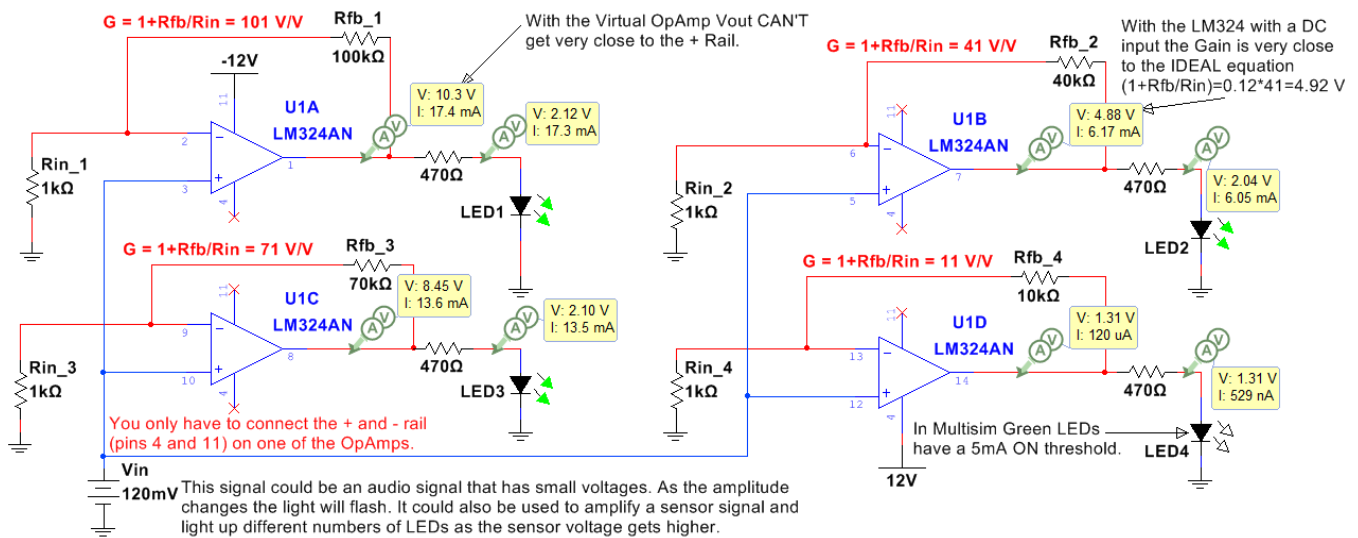
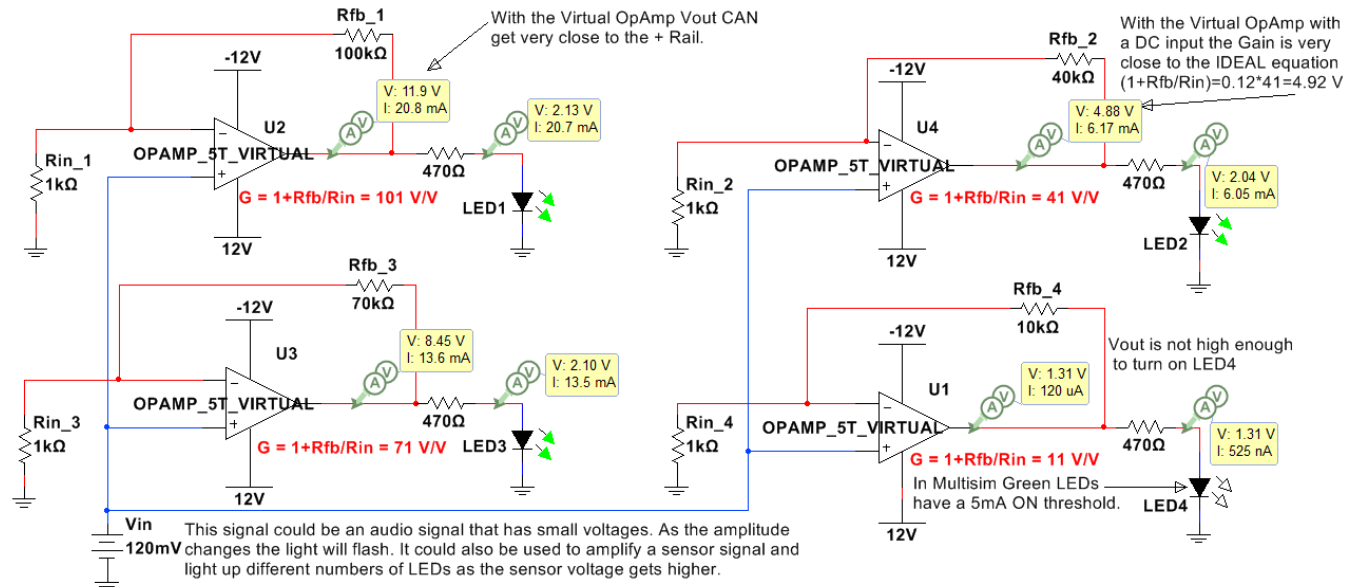
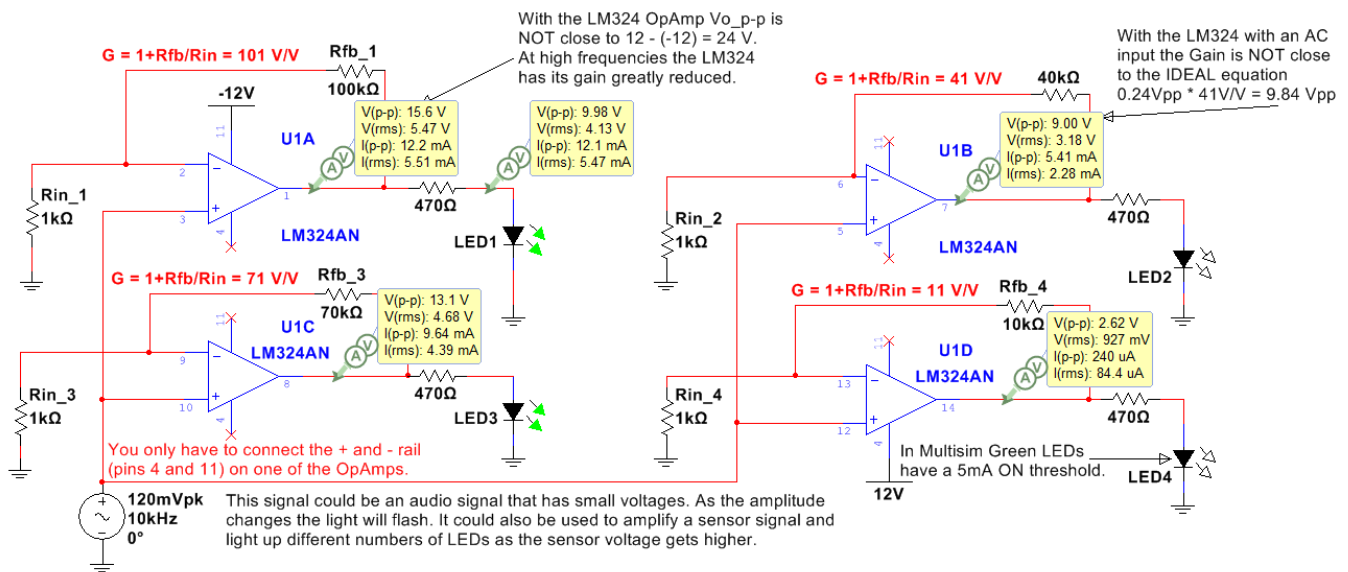
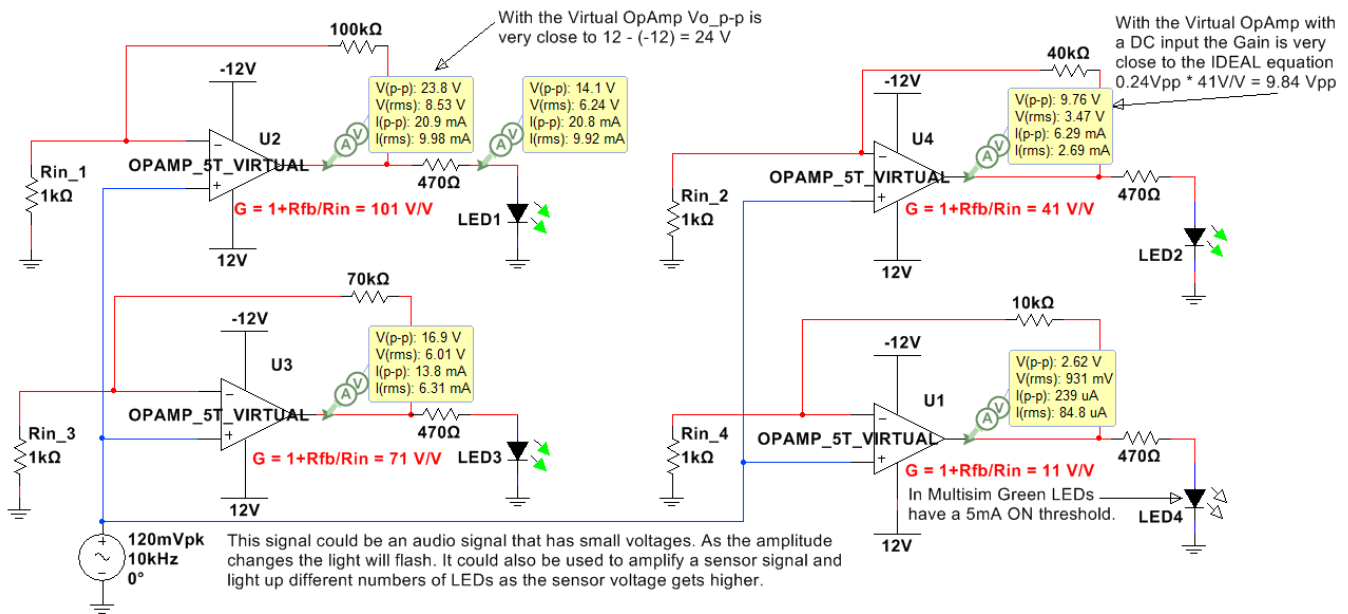

Figure 7.9: Non-Inverting Configuration Example that uses all 4 of the LM324 OpAmps with a DC input.
Figure 7.10: The circuit in Figure 7.9 with the OpAmps replaced with the Virtual 5 Terminal OpAmp.
Figure 7.11: Example circuit that uses all 4 of the LM324 OpAmps with an 10 kHz AC input.
Figure 7.12: The circuit in Figure 7.11 with the OpAmps replaced with the Virtual 5 Terminal OpAmp.
For this section the **OPAMP\_5T\_VIRTUAL** part in Multisim will also be used for all circuits except the one in Figure 7.9 and Figure 7.11. Those circuits are built using the LM324 that was described in Figure 7.1.
Of the 25 LM324 options, a DIP version from **Fairchild Semiconductor** (referred to in Figure 7.1) will be selected (LM324AN). **Note:** An **ON Semiconductor** part is selected instead because they acquired Fairchild semiconductor in 2015. PDIP stands for “Plastic Dual Inline Package” and is one of the most popular IC types for through-hole applications. **Note:** DIP packages will have higher power ratings than surface mount parts. The LM224 is selected in the “Model manufacturer/ID”, because this is in the same family as the LM324. Notice, there are 4 OpAmps (A, B, C, D) that can be selected. In Figure 7.9 an example is shown that uses all 4 OpAmps in a circuit.
The circuits in Figures 7.9 to 7.12 include four OpAmps and is used to amplify a signal at four different gains and turn on LEDs. Figure 7.9 shows has a DC input voltage and shows how all 14 of the LM324 quad OpAmp would be implemented for this circuit and Figure 7.10 shows the results if the LM324 is replaced with four virtual OpAmps (OpAmp\_5T\_Virtual). The green LED has an adjustable current threshold. By double clicking on the LED in Multisim the threshold can be changed. The 5 mA default is used in all of the figures in this eBook. For the circuits in Figure 7.9 and Figure 7.10 with a DC input of 120 mV all OpAmps source enough current to turn on the LEDs except the OpAmp connected to LED4. The 470  $\Omega$  resistor is used to limit the current through the LEDs to around 20 mA, which is a common current rating for many types of LEDs. When the input is a DC voltage the results are nearly identical for the LM324 (Figure 7.9) and the virtual OpAmp (Figure 7.10). The only significant difference can be seen in the output of the top left OpAmp that is connected to LED1. It has a gain large enough to **saturate** the OpAmp. **Saturating** the OpAmp (also commonly referred to as **clipping**) occurs when your output is limited by the rail voltage. The Virtual OpAmp allows  $V_{out}$  to go very close to the positive 12 V rail, but the LM324 limits the voltage to 10.3 Volts in this example.
For DC input signals, the **closed loop gain** ( $G = V_{out}/V_{in}$ ) is usually very close to the **Ideal** OpAmp gain (Equations 7.2 and 7.3 for the inverting and non-inverting OpAmp configurations respectively) for all types of OpAmps because the **open loop gain** ( $A_0$ ) is always an extremely large value (e.g. 200,000 V/V for the Virtual OpAmp in Figure 7.3), but in reality  $A_0$  and  $G$  are reduced as the frequency increases once the frequency reaches the OpAmps internal 3dB frequency (which usually occurs at low frequencies). For example, the 3dB internal frequency for the LM324 is approximately 30 Hz when  $V_{cc} = 15$  V and  $\sim 80$  Hz when  $V_{cc} = 30$  V as shown in Figure 5 of the LM324 datasheet. The ideal closed loop gain equations are modified for the situation where  $A_0$  is NOT assumed to be infinity and are shown in Equation 7.4. When the signal is a high frequency sinusoid then the  $V_{out}$  is greatly reduced in the LM324 (Figure 7.11), but not in the Virtual OpAmp (Figure 7.12) because the Virtual OpAmp assumes  $A_0$  remains at 200,000 V/V for all frequencies.
- **Closed loop voltage gain (G)** is equal to  $V_{out}/V_{in}$  when a feedback resistor ( $R_{fb}$ ) is connected from the output pin of the OpAmp to the inverting (-) terminal of the OpAmp as shown in the circuits in Figure 7.9 to 7.12. If  $R_{fb}$  is replaced with a wire (or  $R_{fb} = 0 \Omega$ ) the gain is equal to 1 V/V for the non-inverting configuration and 0 V/V for the inverting configuration.